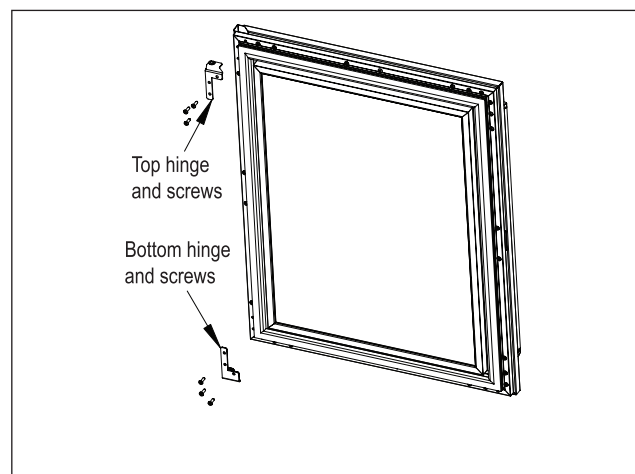

Figure 14. Door Hinges
11) Attach the top and bottom hinges and push plunger using screws removed in step 6 (Fig. 14).